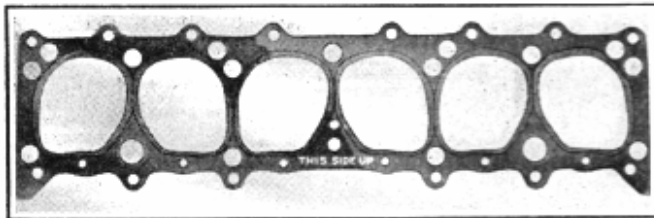

Fig. 66—Cylinder Head Gasket
**CAUTION**—The cylinder head gasket must be installed with the side marked "This side up" on top, Fig. 66.